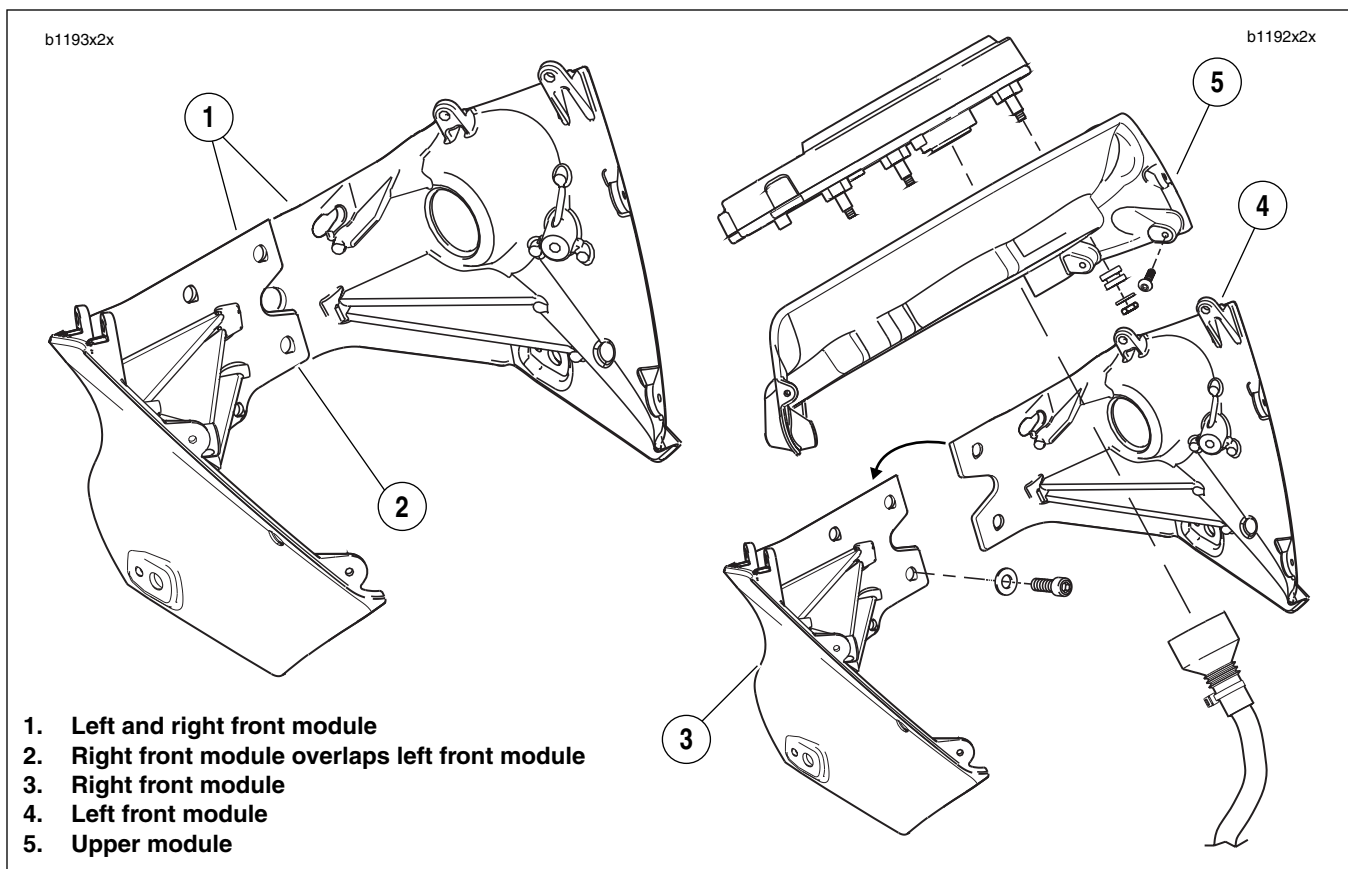

Figure 2-112. Front Module
6. See Figure 2-112. Remove upper module (5) fasteners and remove upper module.
See Figure 2-112. Once the clamp load has been released on the final fastener securing the right front module to the upper triple clamp, the left front module can be removed.
11. See Figure 2-112. Remove the left front module.
7. See Figure 2-112. Install upper module (5). Tighten fasteners to 36-60 **in-lbs** (4.1-6.8 Nm).